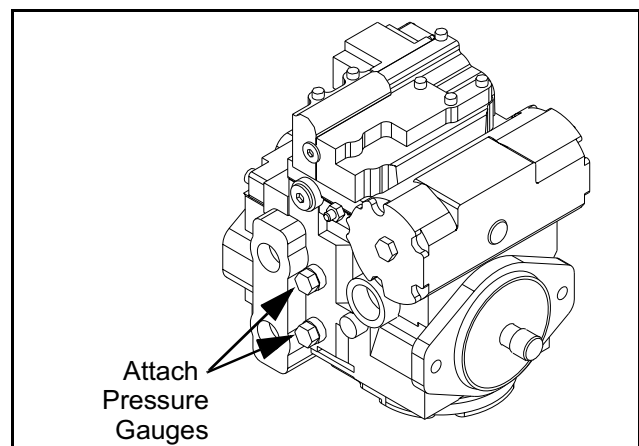

Figure 5 - 5 High Pressure Test Ports
- 4) Install pressure gauges to the high pressure ports on travel pump. (Figure 5 - 5)